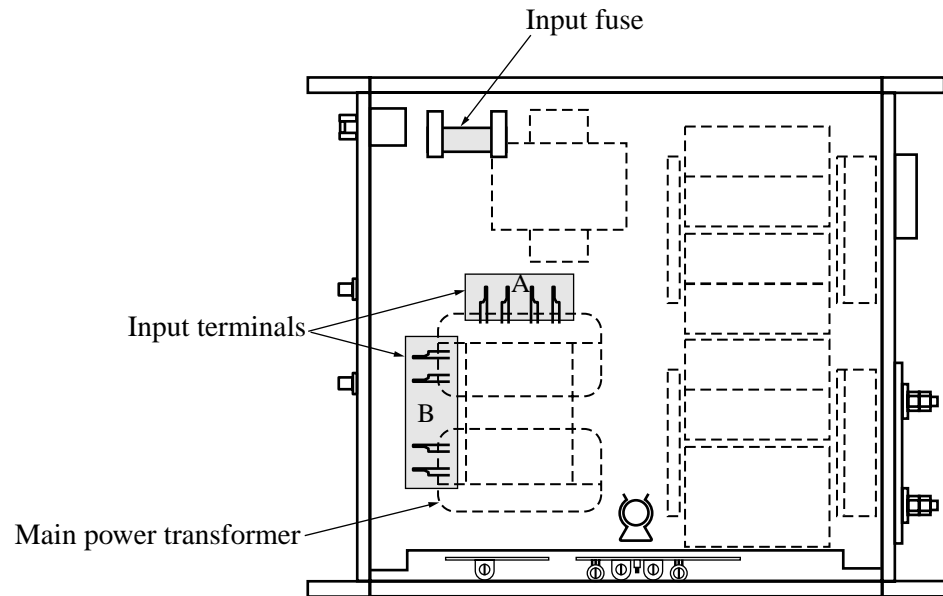
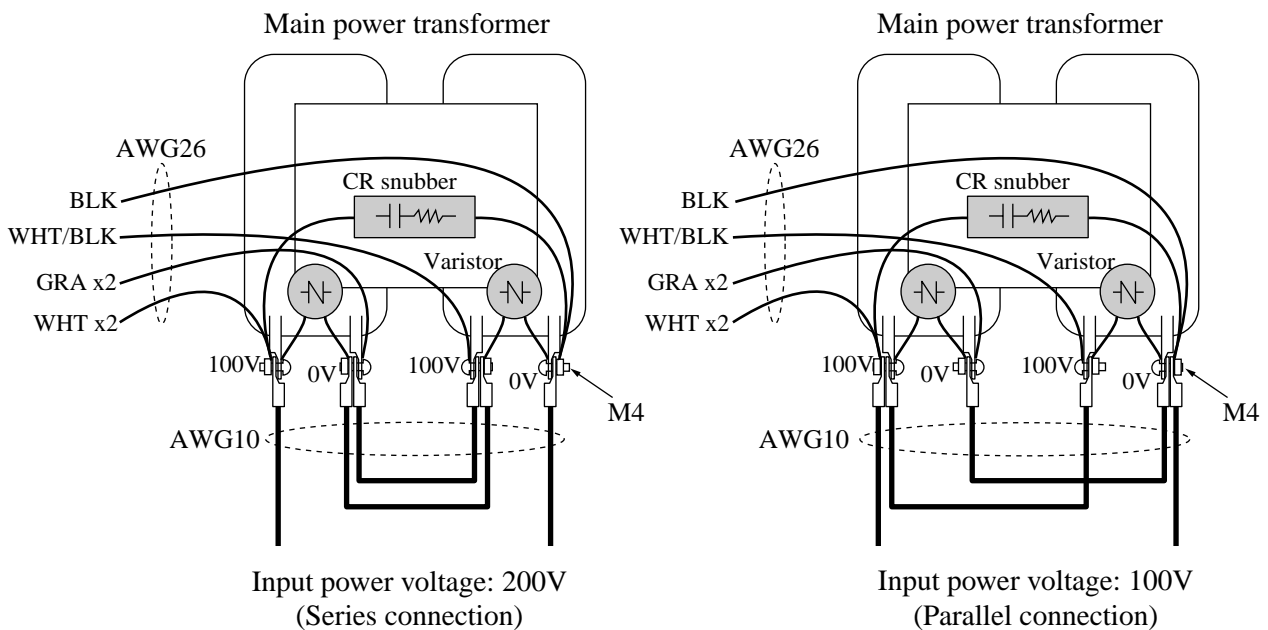

Fig. 1-3 TYPE III model interiors
Fig. 1-4 Connections involving the input terminals of the main power transformer
3. Change the connections of the input terminals of the main power transformer shown in Fig. 1-3 to the condition shown in Fig. 1-4.